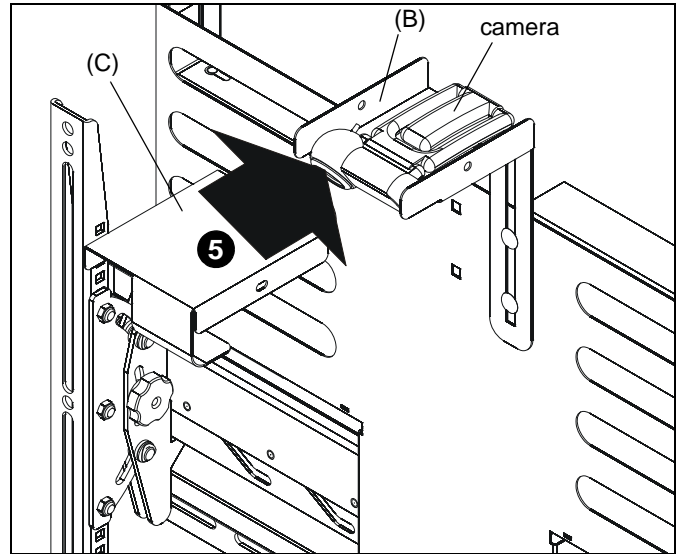

Figure 6
- Set Logitech camera on top of camera bracket (B). (See Figure 6)
**NOTE:** Camera can be secured to camera bracket by using cable ties (F).
- Place camera cover (C) on top of camera and camera bracket. (See Figure 6)